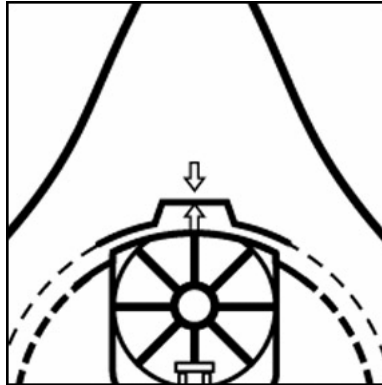

Fig. 18
2. To replace, position nose cup assembly onto center adapter aligning arrows. (Fig. 18)